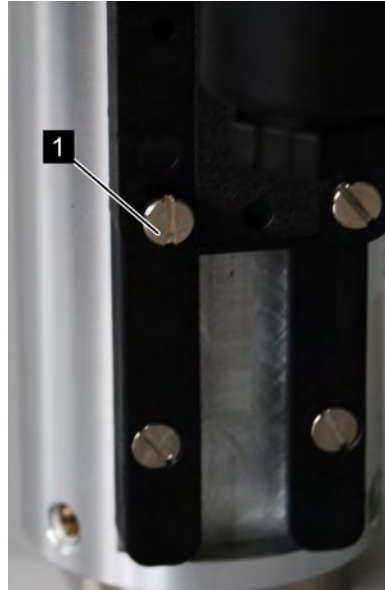

Fig. 34: Loosen set screws
- 1. ➔ Loosen the set screws of the switch contact (Fig. 34/1) using a flat-bladed screwdriver
6.  Tighten the set screws of the switch contact (Fig. 34/1) using a flat-bladed screwdriver. When doing so, observe the correct tightening torque of the screws.